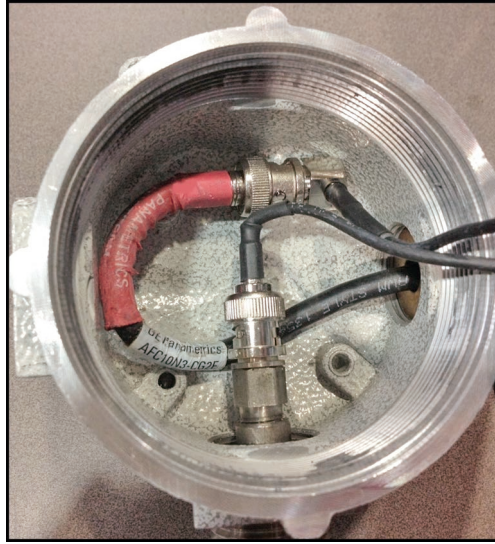

Figure 21: BNC Heads
8. Wrap the extra length of cable around the inside of the junction box such that the BNC heads do not rest on other cables or on each other. The assembly should now look like Figure 21 below.